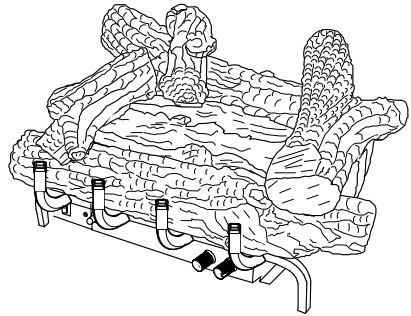

Figure 30 - Final assembly
7. Final assembly is shown in **Figure 30**.